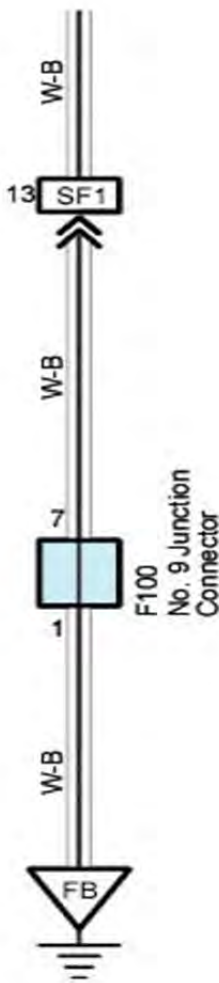
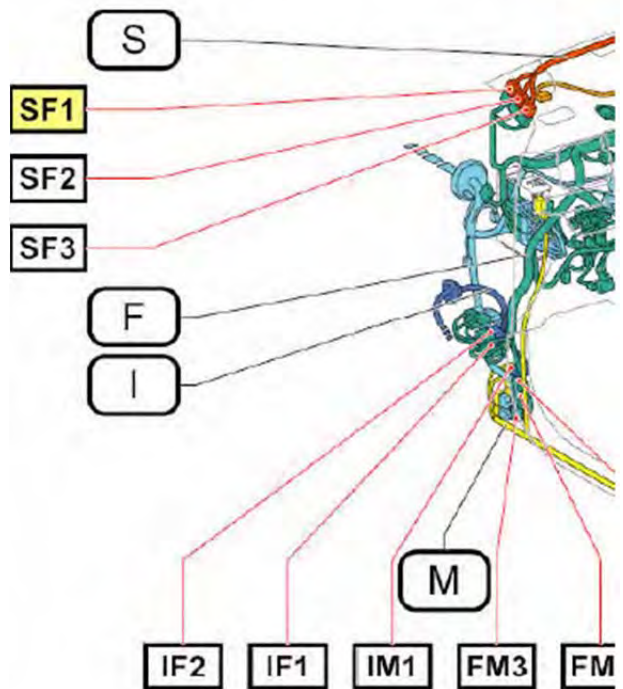

Figure 17a
Figure 17b
17. Locate vehicle connector SF1 in the Front LH pillar. Disconnect connector and pull the factory tape back. T-Tap the mirror main power harness ground wire (black/orange) to Pin 13 white/black wire in white connector SF1. See figure 17a and figure 17b.